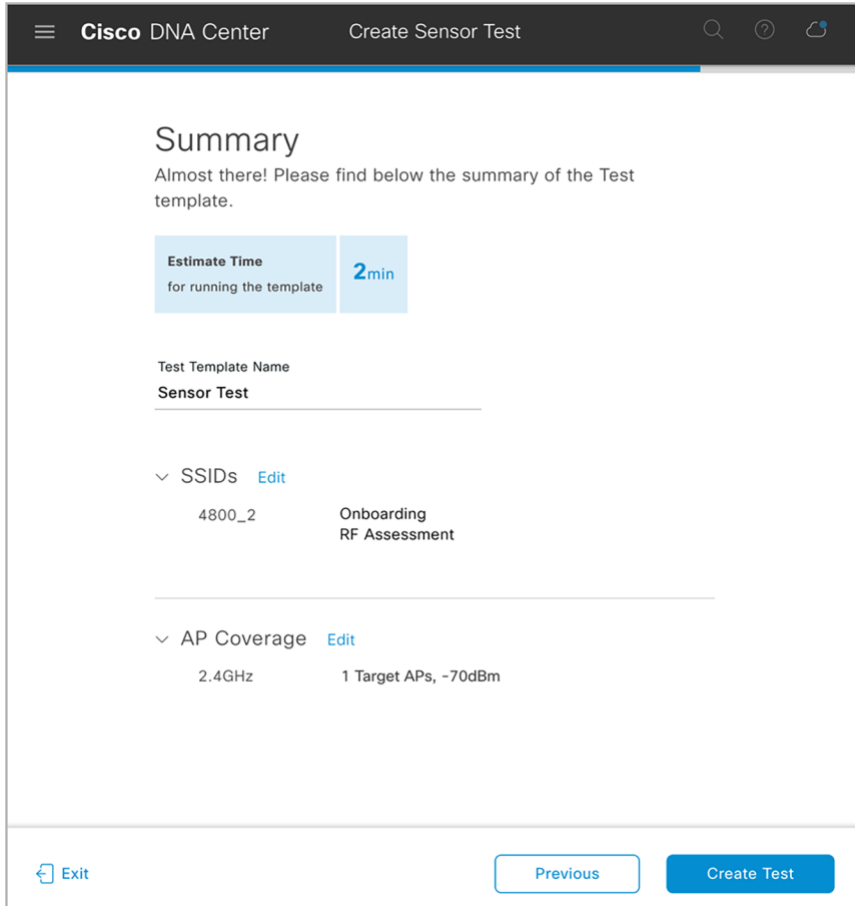
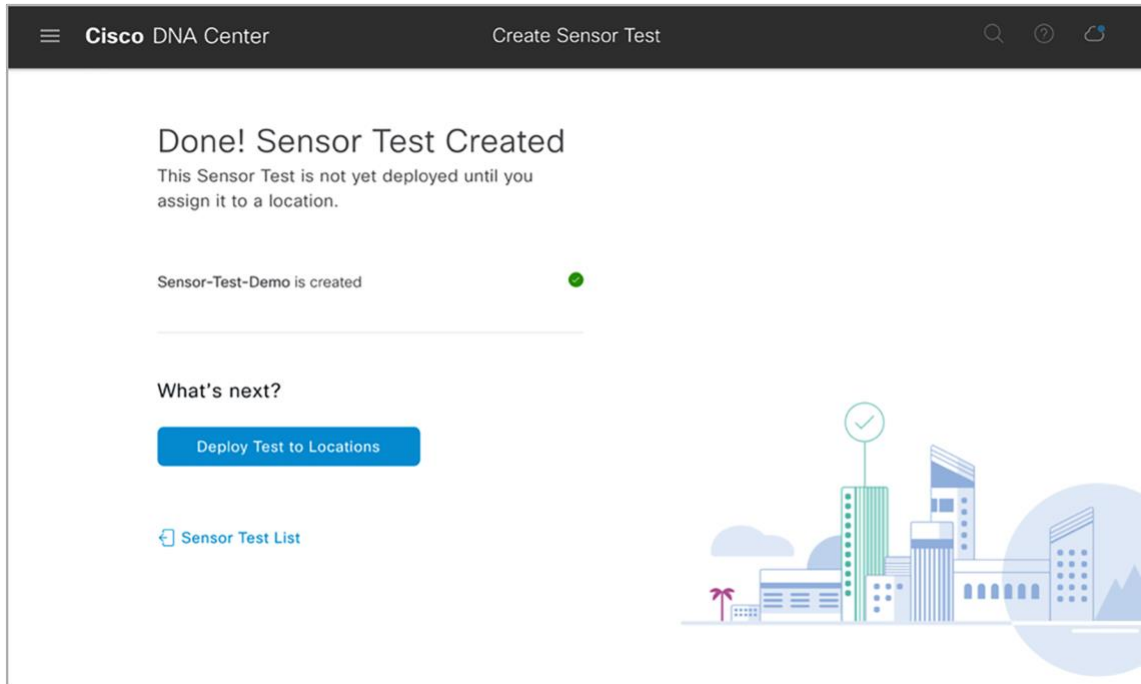
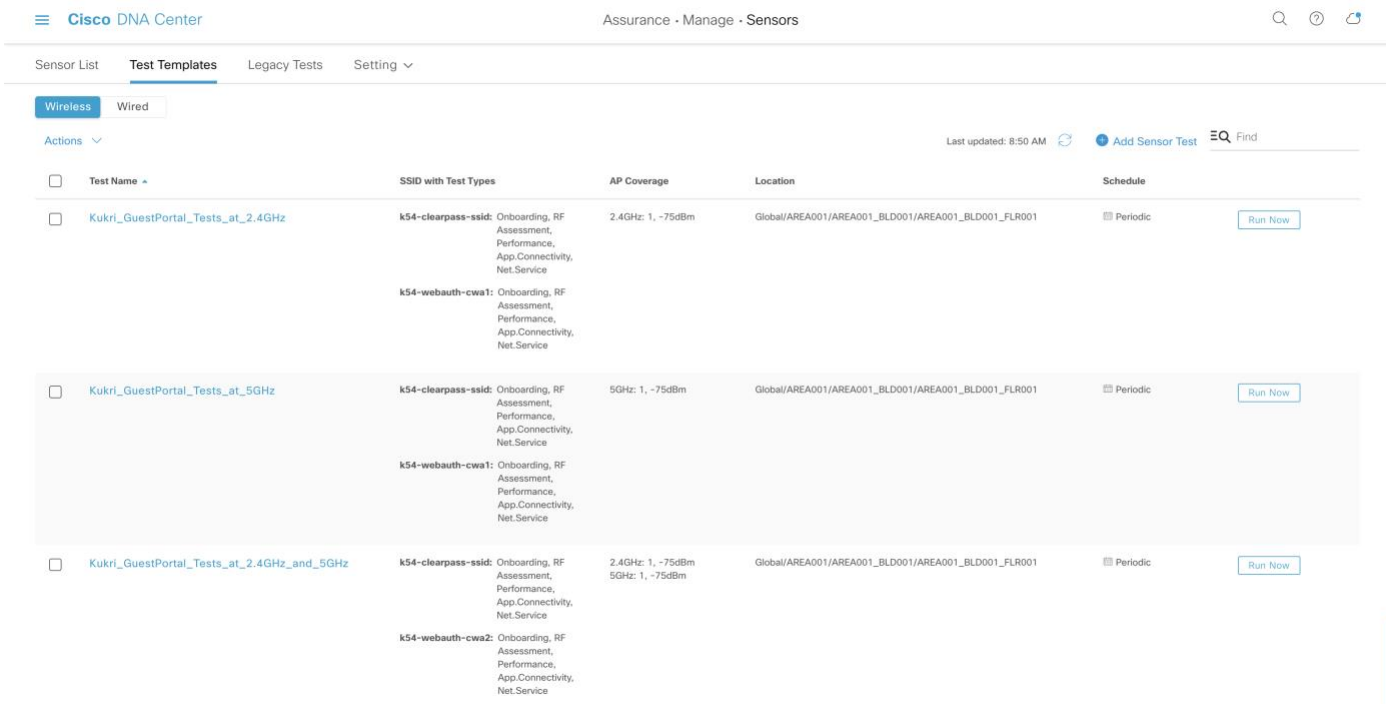

Figure 73.
Figure 74.
Figure 75.
- p. Click Next **(Figure 72.)** to display the Summary page **(Figure 73.)**.
- q. Click Create Test (**Figure 73.**) to complete the sensor test creation process (**Figure 74.**).
- r. After you create the sensor test template, you can deploy a sensor test by clicking Deploy Test to Locations (**Figure 74.**), or you can navigate directly to the Test Templates page (**Figure 75.**).
- s. Click Deploy Test next to a test template you would like to deploy to a site (**Figure 75.**).
- c. Optional site hierarchy filter: To filter the Wireless Sensors dashboard to show only data from a specific band or SSID, click the Filter button in the top right corner of the screen, and make a selection (Figure 74).
- **Observation:** In Figure 74, the DNS drill-down test result provides insight into the times at which DNS response times spiked in the past 24 hours.